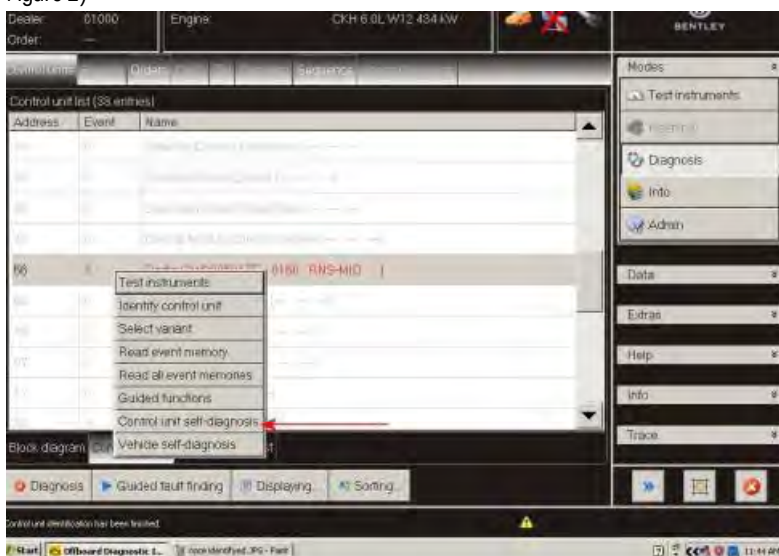

Figure 3
5. Once the control module has been identify by the diagnostic program touch, hold then release the selected box again to reveal drop down menu this time select *Control unit self– diagnosis* (see Figure 3)